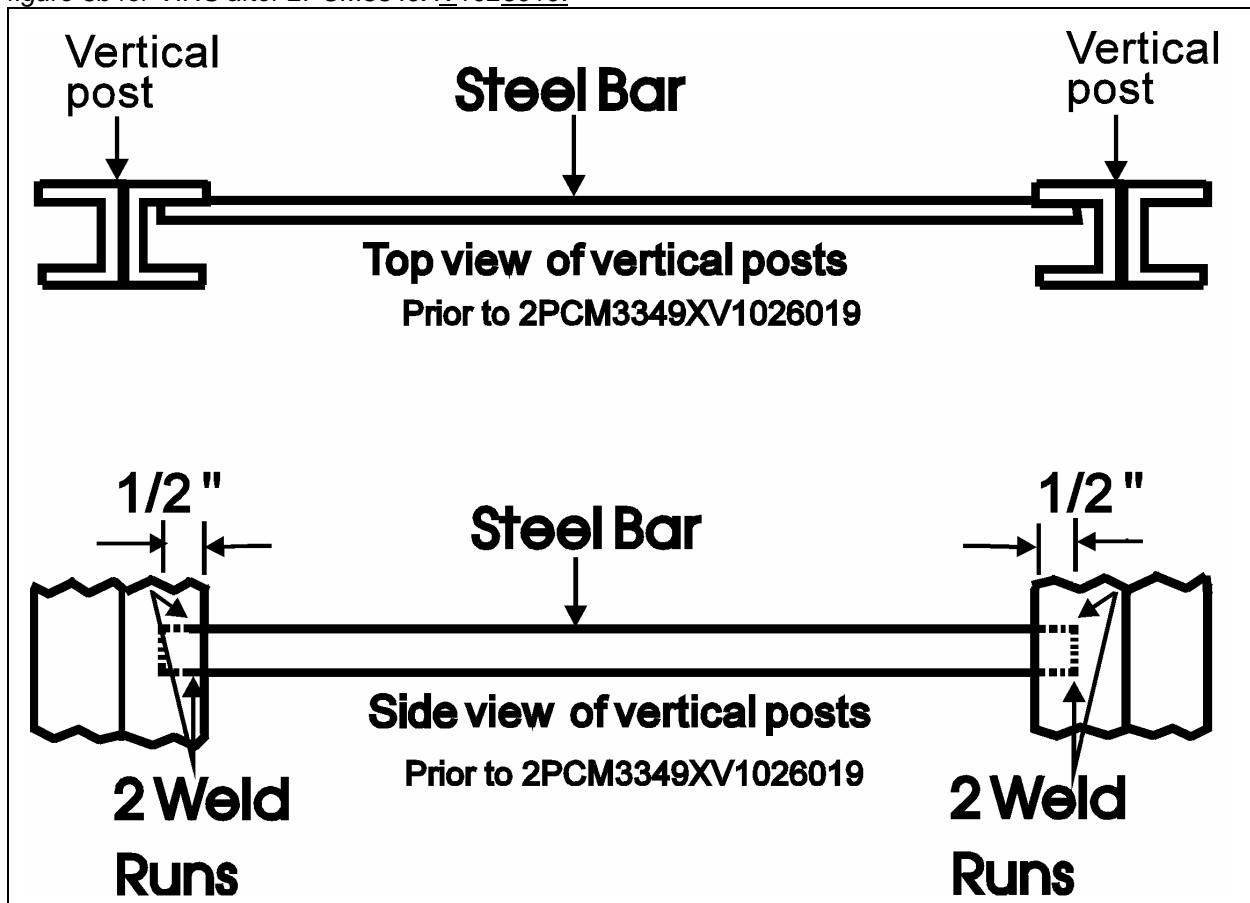
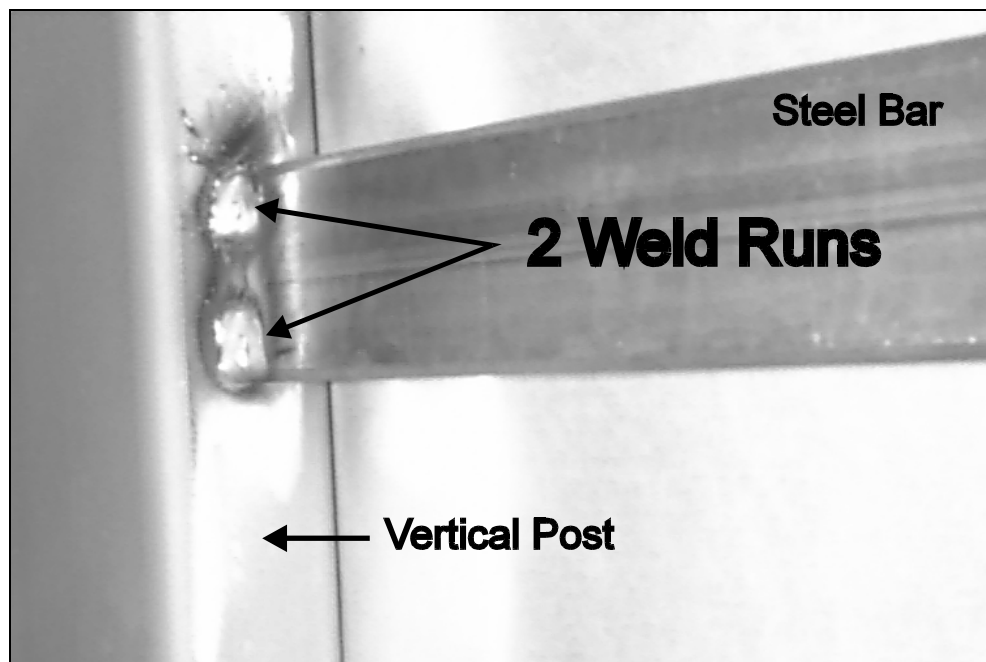

FIGURE 3A: LOCATION OF WELD RUNS
FIGURE 3B: LOCATION OF WELD RUNS
Note: For VINS prior to 2PCM3349XV1026019, steel bar is 1" longer than for subsequent VINS (Fig. 3a).
5. Weld steel bars to vertical posts as shown in figures 3a and 3b.
Note: Figure 3a shows steel bar/vertical posts for VINS prior to and including 2PCM3349XV1026019 and figure 3b for VINS after 2PCM3349XV1026019.